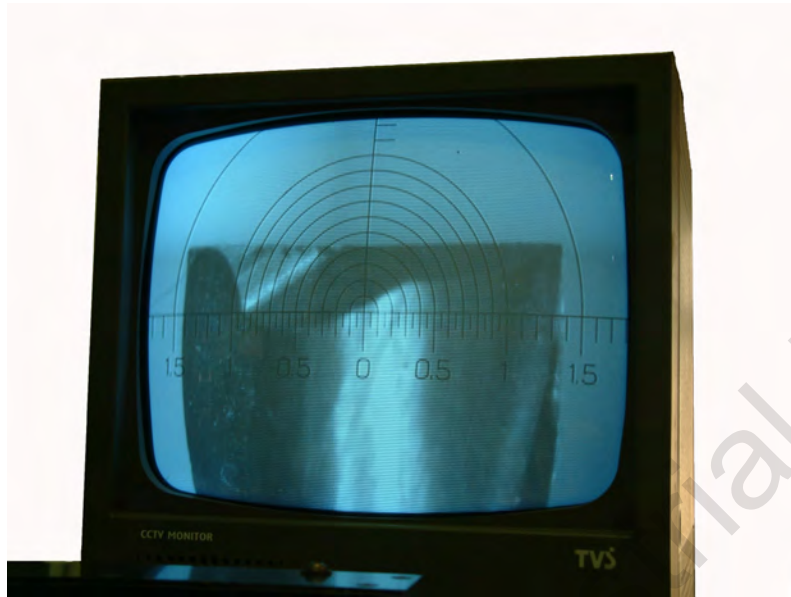

Fig 6-7 The whole picture on the monitor
3. Turn the monitor source power ON, and the scale line (semi-circle) will be shown as Fig 6-7.
1. Loosen part ⑦.
2. Pull part ① up & down to focus the scale line. Fasten part ⑦ if the line is clear enough.
3. Rotate the 3 bolts of part ② to adjust the scale line at the appropriate position for inspecting the tool.
4. Loosen part ③ and rotate the column. The tool image will be also rotated.
6. Fasten part ③.
7. The correct position of the tool relative to the scale line could refer to Fig 6-7.